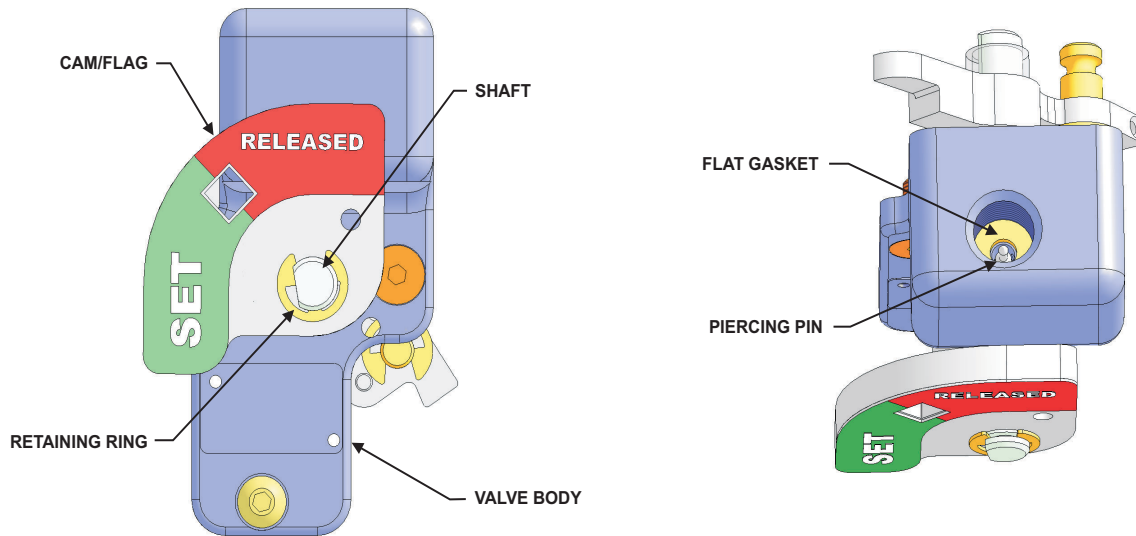

Figure 5-29. Valve Body with Piercing Pin Shown
Refer to Figure 5-29 when performing the service operation.
3. Carefully remove the retaining ring and set in a safe place. Refer to Figure 5-29 for location.